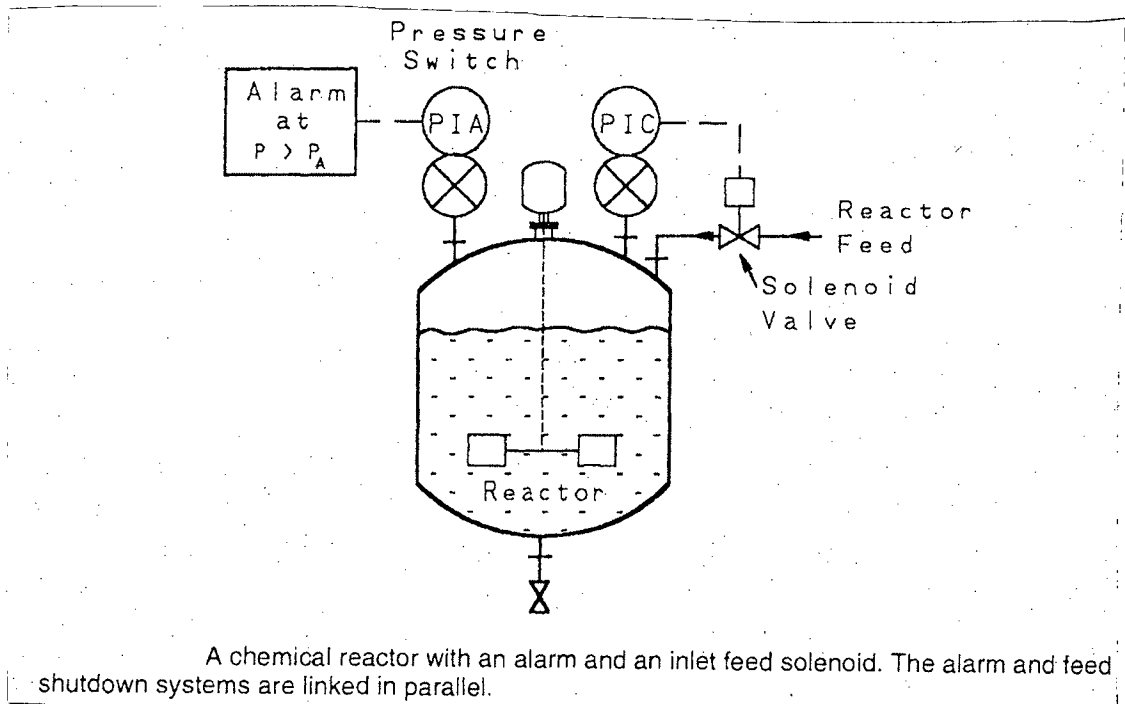

Fig. 6(b)
5. (a) Write a short note of Boiling-Liquid Expanding-Vapor Explosions (BLEVE). (10)
- (b) Explain the flammability diagram with an appropriate example. (12)
- (c) Fires and explosions are substantial hazards in many chemical plants. (13)
6. (a) Describe the normal procedure for using hazards identification and risk identification (HAZOP). (12)
- (b) A diagram of the safety systems in a certain chemical reactor is shown in Fig. 6(b). This reactor contains a high-pressure alarm to alert the operator in the event of dangerous reactor pressures. It consists of a pressure switch within the reactor connected to an alarm light indicator. For additional safety an automatic high-pressure reactor shutdown system is installed. This system is activated at a pressure somewhat higher than the alarm system and consists of a pressure switch connected to a solenoid valve in the reactor feed line. The automatic system stops the flow of reactant in the event of dangerous pressures. Compute the overall failure rate, the failure probability, the reliability, and the MTBF for a high-pressure condition. Assume a 1-yr period of operation. Also, develop an expression for the overall failure probability based on the component failure probabilities. Use the failure rate data from the table 6(b). (10)